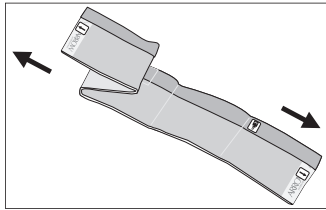

Fig. 9
- Unfold width (refer to Fig. 9).